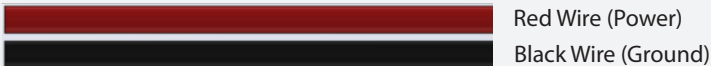

Figure 2: Example of mounting locations, shown by the blue "X"s
3. Place the rest of the fasteners approximately every 6 to 8 in down the length of the product until installation is complete. See figure 2 below for an example of mounting locations.